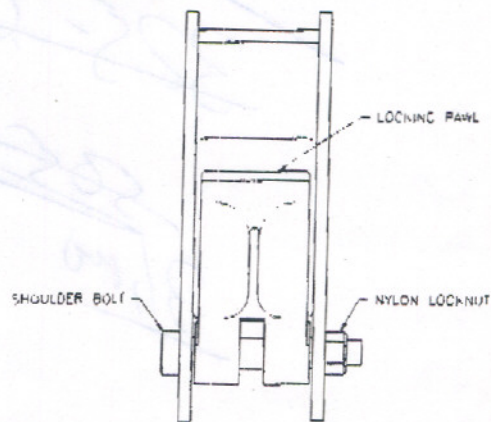

Figure 1
3. Install the locking pawl on the power column as shown in Figure 1.